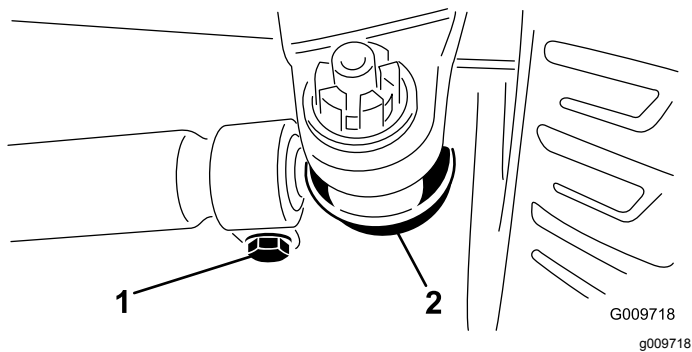

Figure 77
- To adjust, remove the cotter pin and nut from either tie-rod ball joint (Figure 77) and remove the tie-rod ball joint from the axle-case support.
3. Loosen the clamps at both ends of the tie rods (Figure 77).